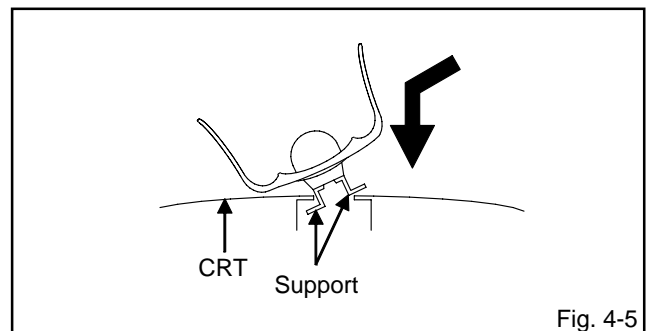

Fig. 4-5
4. Insert one end of the Anode Support into the anode button, then the other as shown in Fig. 4-5.